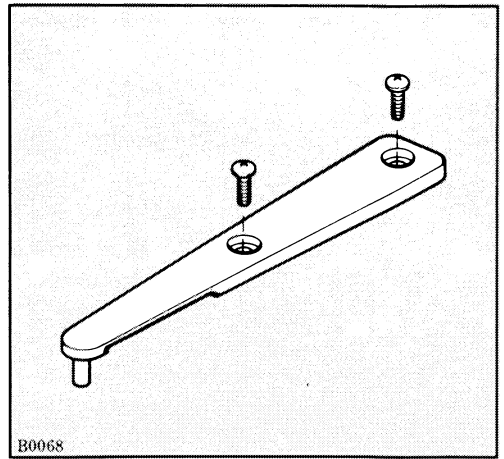

Fig. 2
- a) Remove the top hinge (Fig. 2) and refit it on the opposite side.